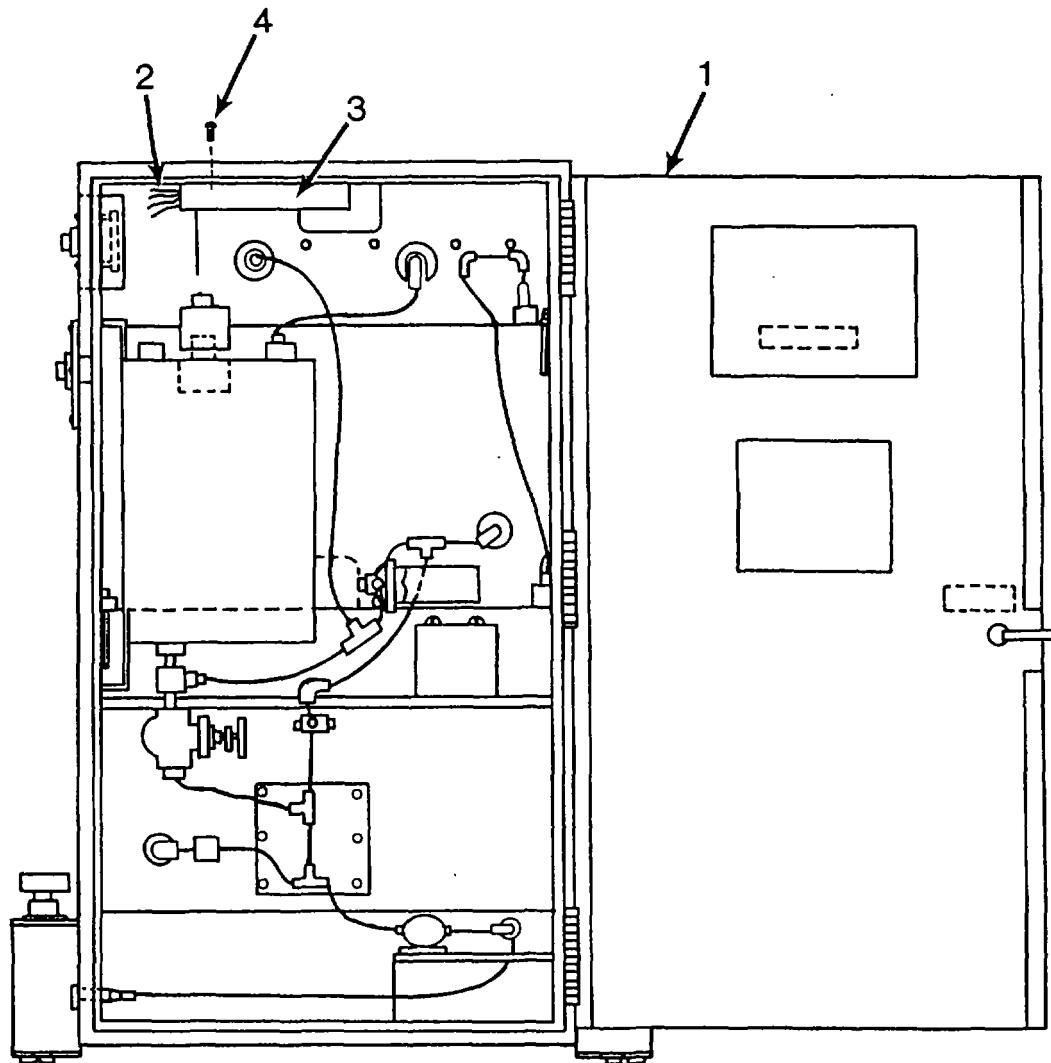

Figure 4-22. Replace Power Supply
- f. Repair by replacing Power Supply. (Figure 4-22.)